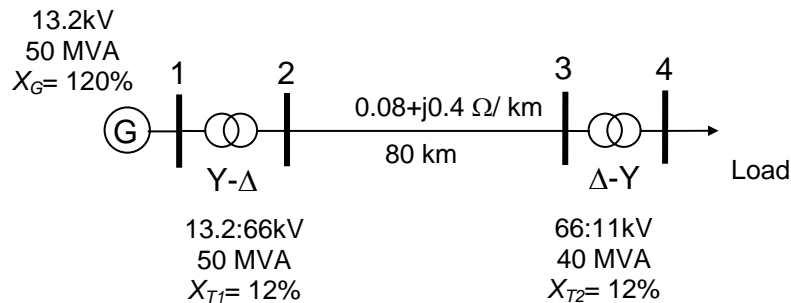

Fig. 1: 4-Node System for Problem 1.
1. Consider the following power system shown in Fig. 1 below. The load will be modeled as a constant impedance load taking $32+j16$ MVA at nominal voltage. The given percent impedances are with respect to corresponding equipment rating. For this exercise calculations are to be done with $S_B= 10$ MVA.